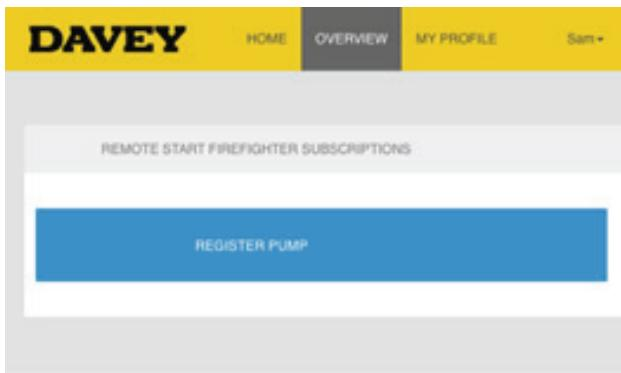

Figure 7.14
- > Click “REGISTER PUMP” (*Figure 7.14*);